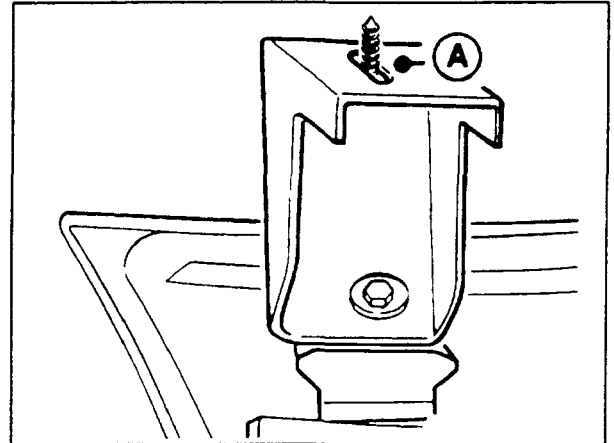

Figure 22
3. Loosen bolt (A, Figure 22) on side of bumper.